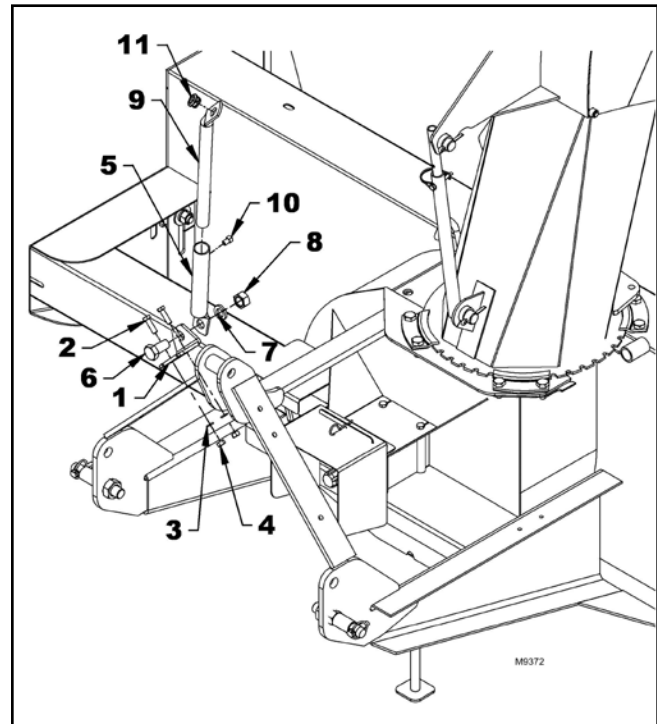
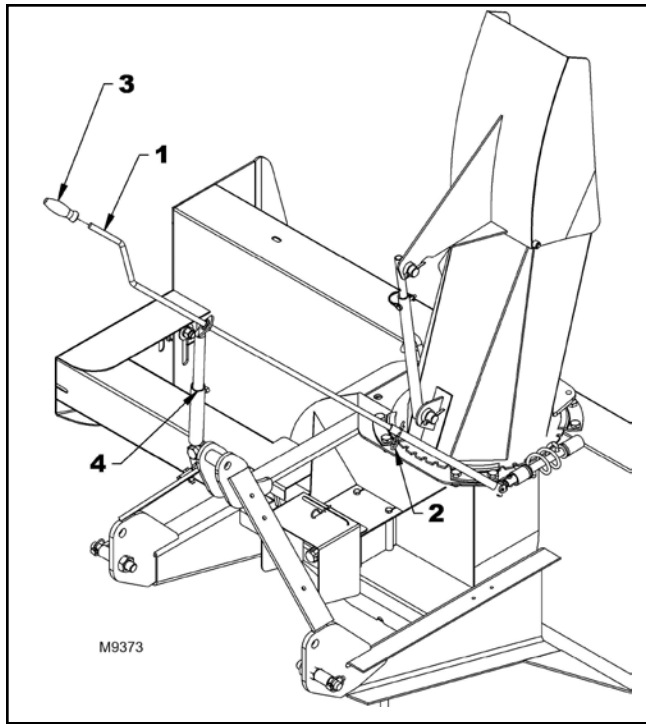

Figure 19. Handle Support Assembly
Figure 20. Rotator Handle Assembly
6. Figure 19: Install the rotation bracket (item 1 on the right arm of the three point hitch with two 3/8 NC x 1-1/4" bolts, lockwashers and nuts (items 2, 3, 4). Tighten securely.
7. Attach the handle support bracket (item 5) to the rotation bracket (item 1) with a 3/4 NC x 1-1/4" bolt, lockwasher and nut (items 6, 7, 8) making sure to orient the bracket as shown.
8. Insert the handle support (item 9) in the bracket (item 5) and adjust the height of the support according to your needs and secure in place with a 3/8 NC x 1/2" square head setscrew (item 10).
9. Insert the grommet (item 11) in the handle support (item 9).
10. Figure 20: Insert the rotation handle (item 1) in the handle support (item 4) and in the rotation tube. Select desired length, align nearest holes and secure with the 4 mm x 80mm hairpin (item 2). Install the plastic handle (item 3).
11. Figure 19: Once the snowblower is attached to the tractor, adjust handle position and height to ensure comfort and safe operation. Tighten setscrew (item 10) on the handle support as well as the 3/4 NC x 1-1/2" bolt, lockwasher and 3/4 NC nut (items 6, 7, 8).
12. Figure 20: To insure the manual rotator functions properly, position the handle support (item 4) as close as possible to the top link mounting point of the three point hitch while making sure it does not come into contact with the operator's seat when the snowblower is fully raised.